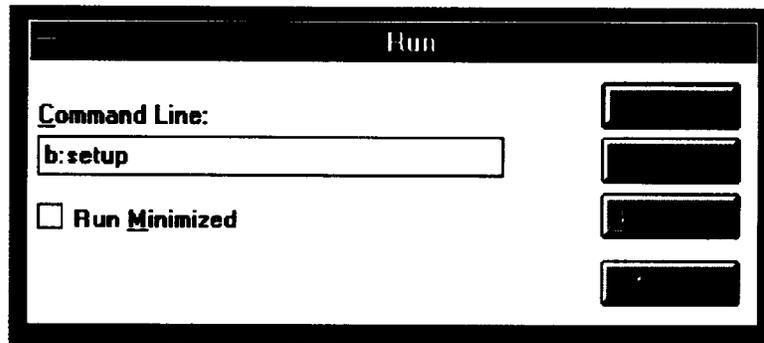

Figure 2.2-1. Run Command Line
- \* From the **File** menu in either the **Program Manager** or **File Manager**, choose **Run** (A dialog box similar to the one shown in Figure 2.2-1.)